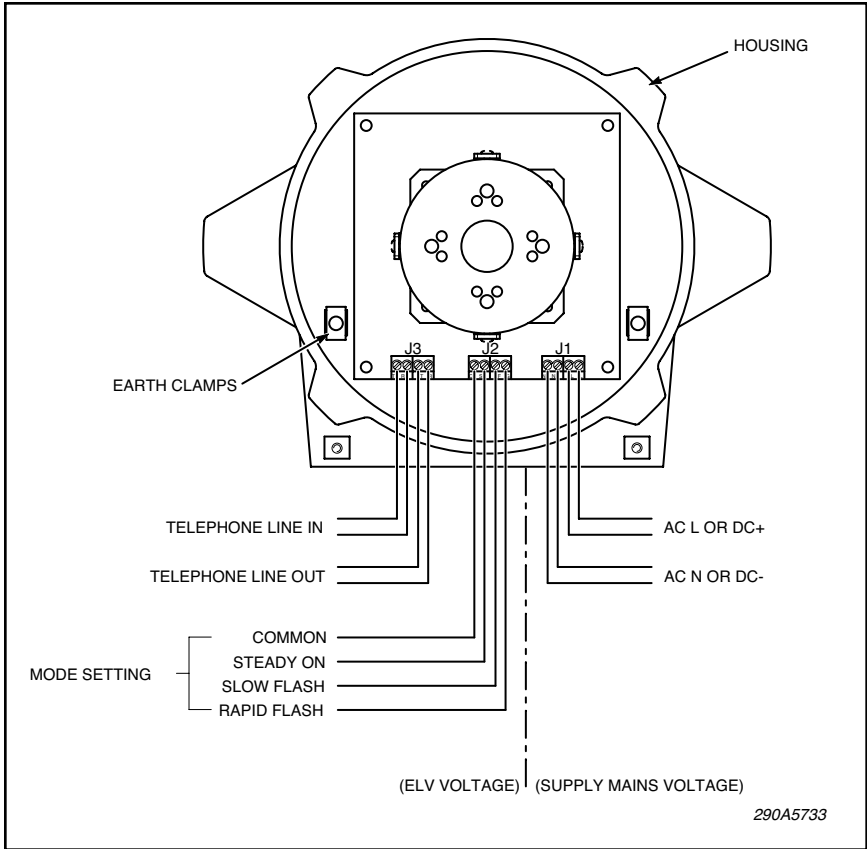

Figure 1.
e. A series of four-pole screw terminal blocks are provided for field wiring. See figure 1 for wiring diagram. These terminals are rated for the following wire ranges: 24 to 12 AWG (0.25 to 4 mm²). Terminal tightening torque is 0.5 Nm. The power feed through terminals of J1 are rated for 300 V, 10 amps maximum. See section D for specific mode of operation wiring.
a. Connect power wiring to the J1 terminal block as indicated in Figure 1 (Ex d) or 2 (Ex de). The supply power should not be switched as the remote contacts are used to activate the light.
a. Connect power wiring to the J1 terminal block as indicated in Figure 1 (Ex d) or 2 (Ex de).
b. Connect telephone line wiring to the J3 terminal block as indicated in Figure 1 (Ex d) or 2 (Ex de).